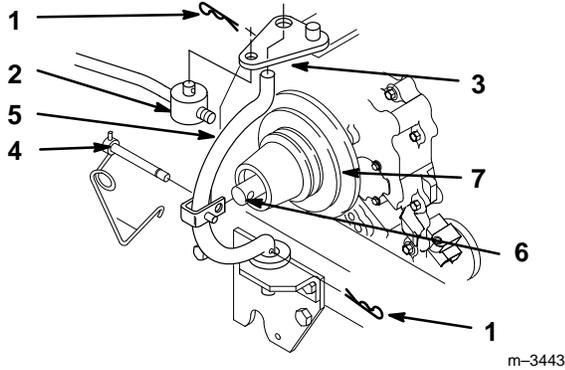

Figure 17
5. Remove hairpin cotters from trunnion and bottom of yoke (Fig. 17).
6. Unlatch and remove locking clevis pin that secures yoke assembly to clutch shaft. Pivot yoke out and forward to remove from clutch shaft and engagement plate (Fig. 17).
7. Place belt in inside pulley groove (Fig. 17).
8. Assemble yoke and engagement plate and attach locking clevis pin, trunnion and hairpin cotter to secure (Fig. 17).